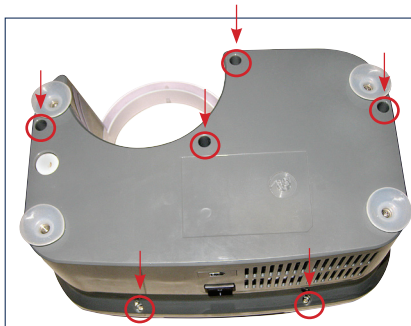

Figure 5
- 4) Close the unit with all six (6) screws, figure 5.